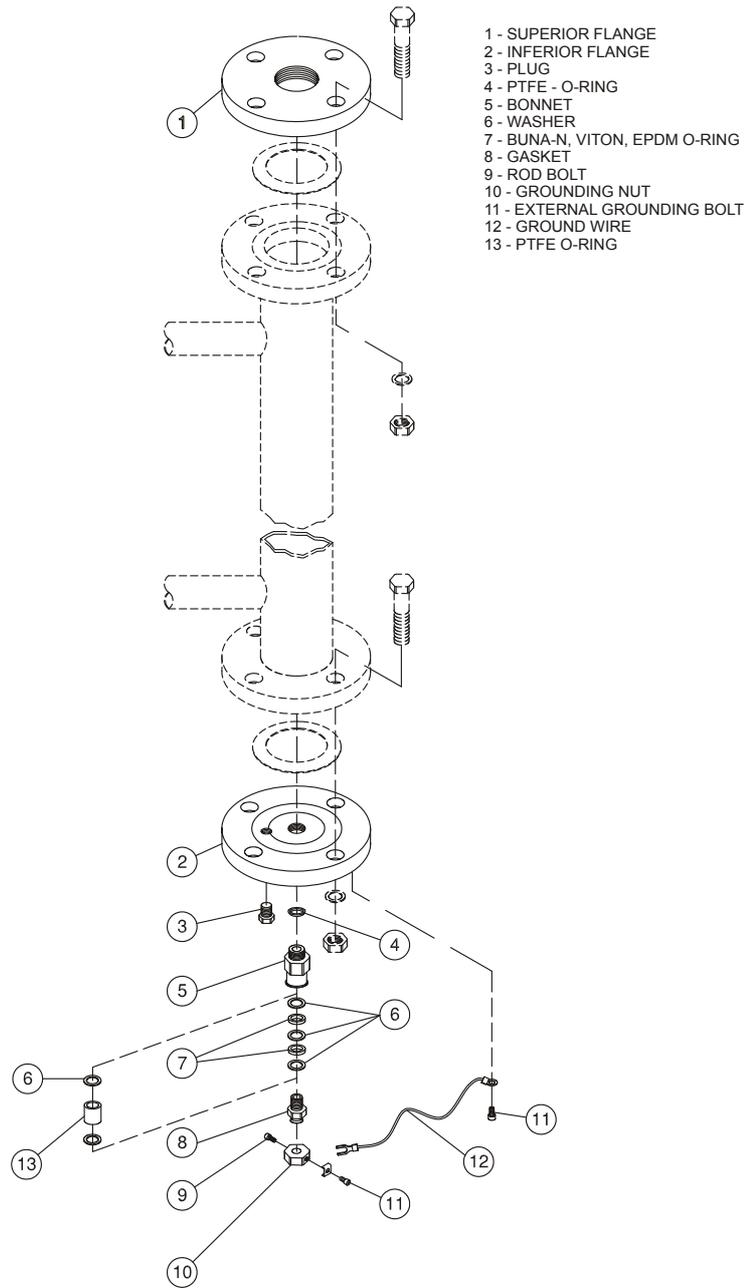

Figure 7.4 – Exploded View – Accessories (Flange/Kit)
(1) See Figure 7.4 / (2) The Sealing Kit is applied with inferior flanges in communicating vessel / (3) If the probe needs to be anchored in the bottom of the tank, the RD400 can be supplied with an anchorage ring, without counter-weight. See Figure 7.5. / (4) Applicable for open or non-metallic tanks, and also when flanges for process connection are not used. This metal sheet guarantees an appropriate return of the electromagnetic waves to the equipment isolator, when the single probe is used. See Figure 7.6.
It is recommended to use a sealing kit at the bottom of the vessel (see codes at Table 7.2, Figure 7.4).